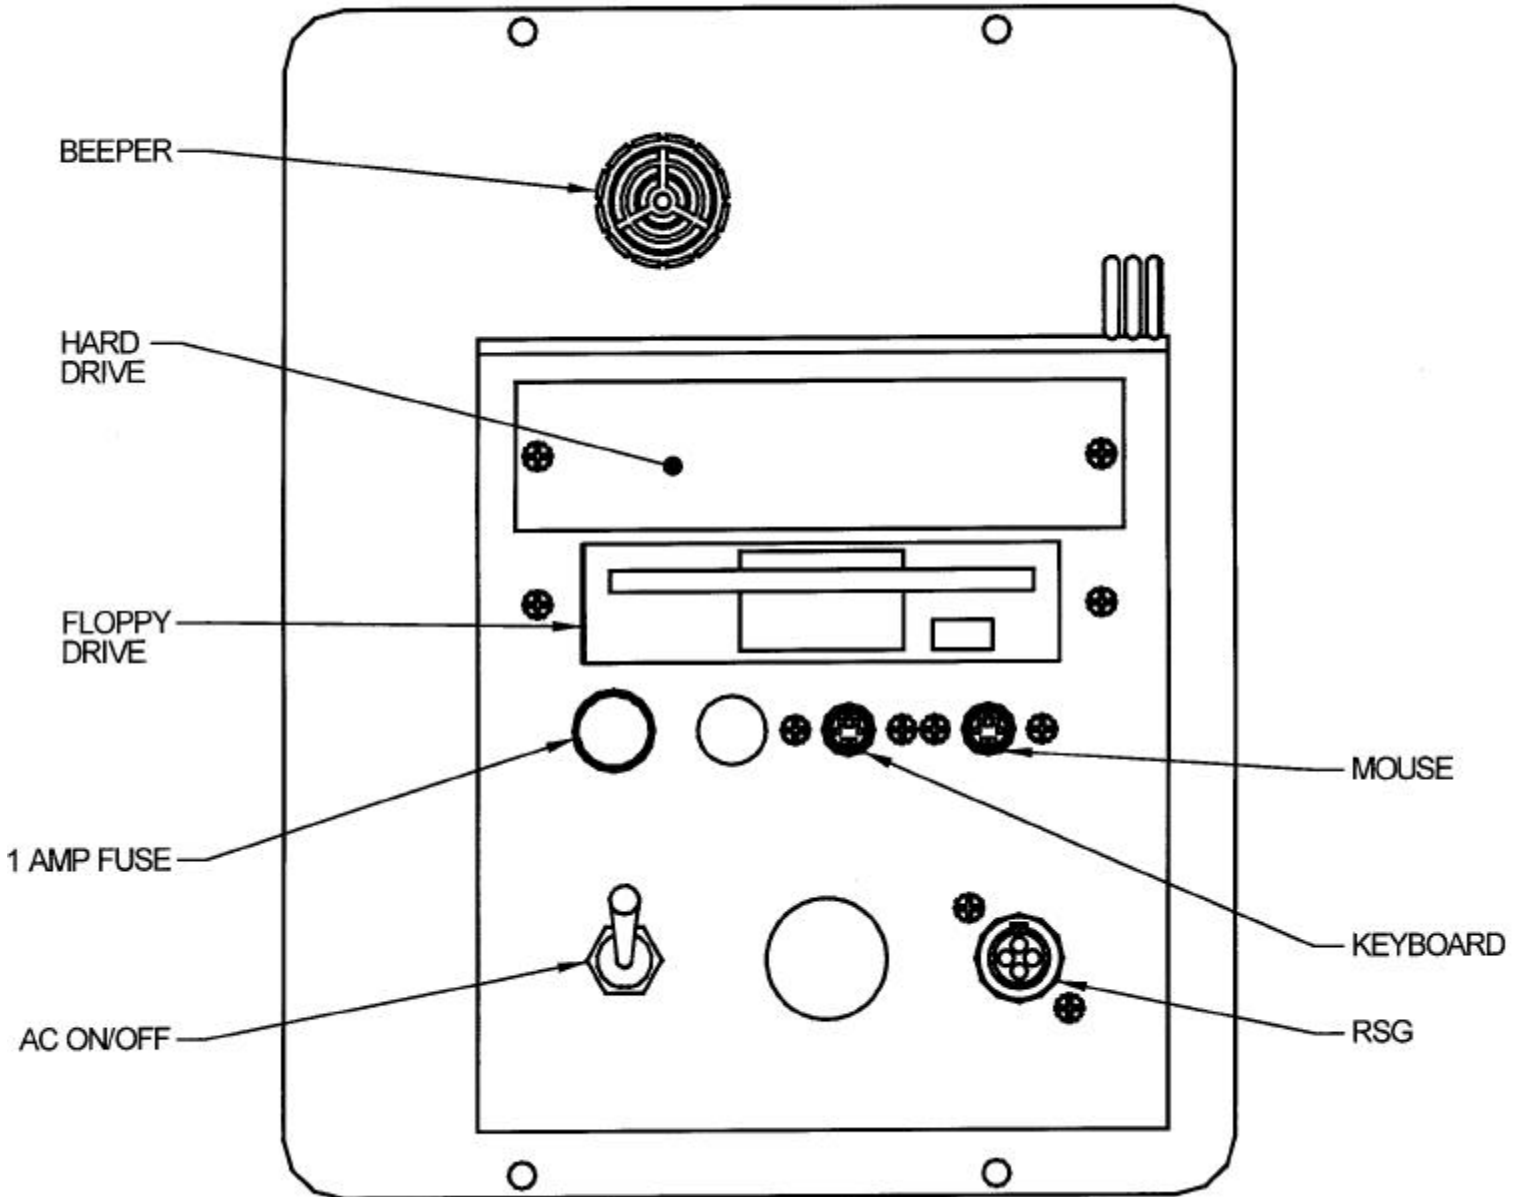

FIGURE 3.3 The ProtoTRAK VM right side
3.3 Pendant Right Side (See Figure 3.3 for a description of the connectors and features located on the right side of the display panel.)